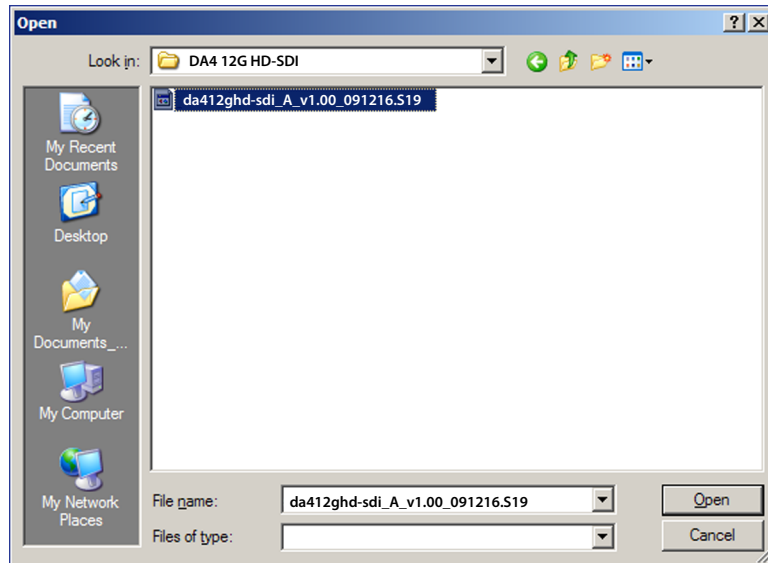

Figure 21. Open Window for Firmware File Selection
9. Click the **Browse** button in the **New Firmware File (Optional)** section (②).
10. In the **Open** window (see figure 21), navigate to the new firmware file, which has an **.S19** extension, and double-click it.